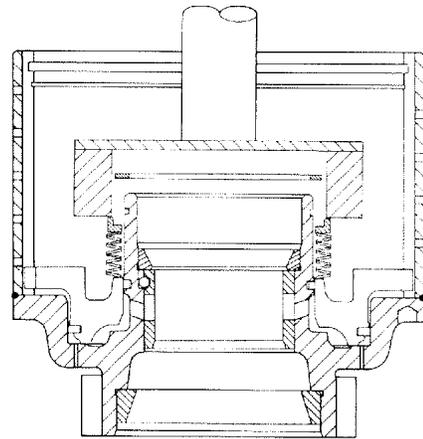
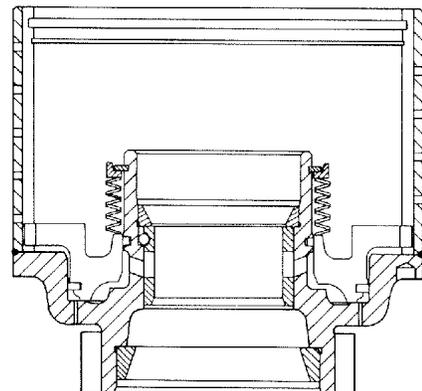

Figure 109
Figure 110
Position snap ring over clutch hub. Compress snap ring retainer and belleville washers below snap ring groove, (See Figure 109). Install snap ring in full position in snap ring groove and release tension on ring retainer. Retainer must fit all around snap ring, (See Figure 110).
Position belleville washers against the clutch piston as shown in Figure 109. Concave sides against each other. Five (5) sets, total of ten (10) washers in each clutch, input (forward) and reverse. Locate snap ring retainer on belleville washers.